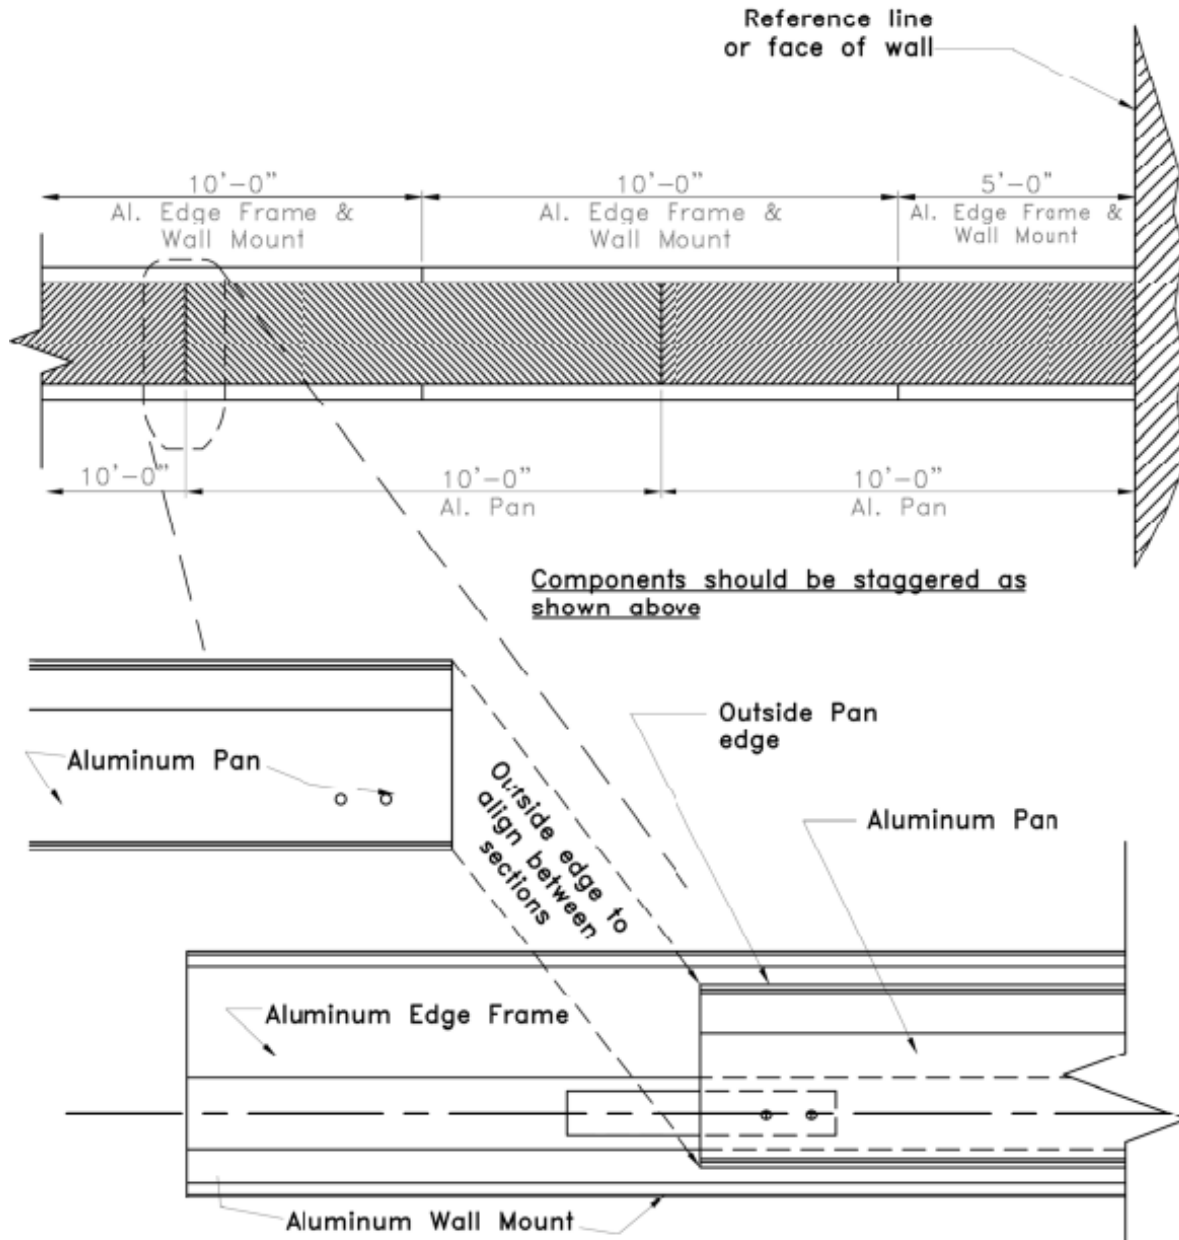

FIGURE 8
8. Set in next aluminum pan snug against previously laid in aluminum pan. See step 9 for splicing the two together. Ensure aluminum pan sections butt tightly together and that the outside edge align from section to section. **SEE FIGURE 8**